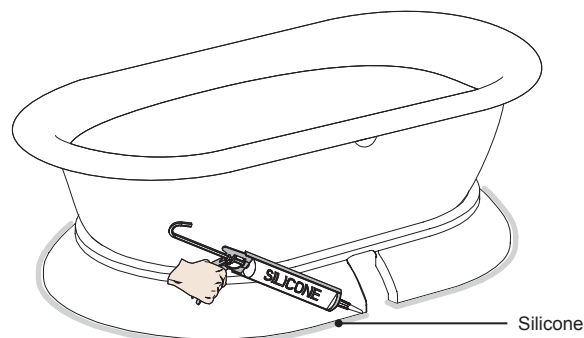

Figure 32. Pedestal Placement
- ❺ Apply a bead of silicone (commercially available) around the edge of the pedestal base (Figure 32). Follow manufacturer's recommended drying time before proceeding.